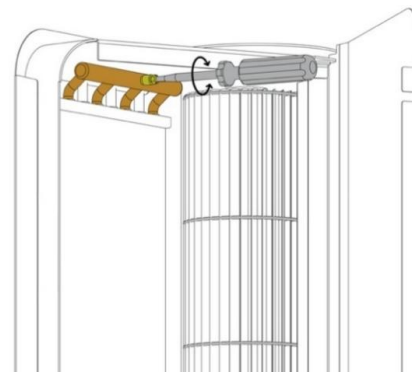

FIG. 17.2 BLEEDING/ AIR RELEASE VALVE.
1. It is recommended to use bleeding/air release valves at the highest point of the installation. When installing the device vertically, bleeding should be done using the built-in valve (Fig. 17.2), while protecting the remaining elements of the device against water damage/flooding.